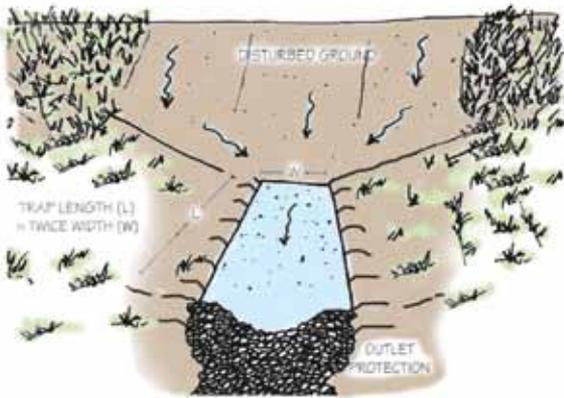

Figure 3.7. Examples of excavated traps with (a) pipe or (b) rock outlet (AS-EPA Guidance Manual for Runoff Control, 2001).
- Locate traps (Figure 3.7) and basins (Figure 3.8) to obtain maximum storage, ease cleanout, and